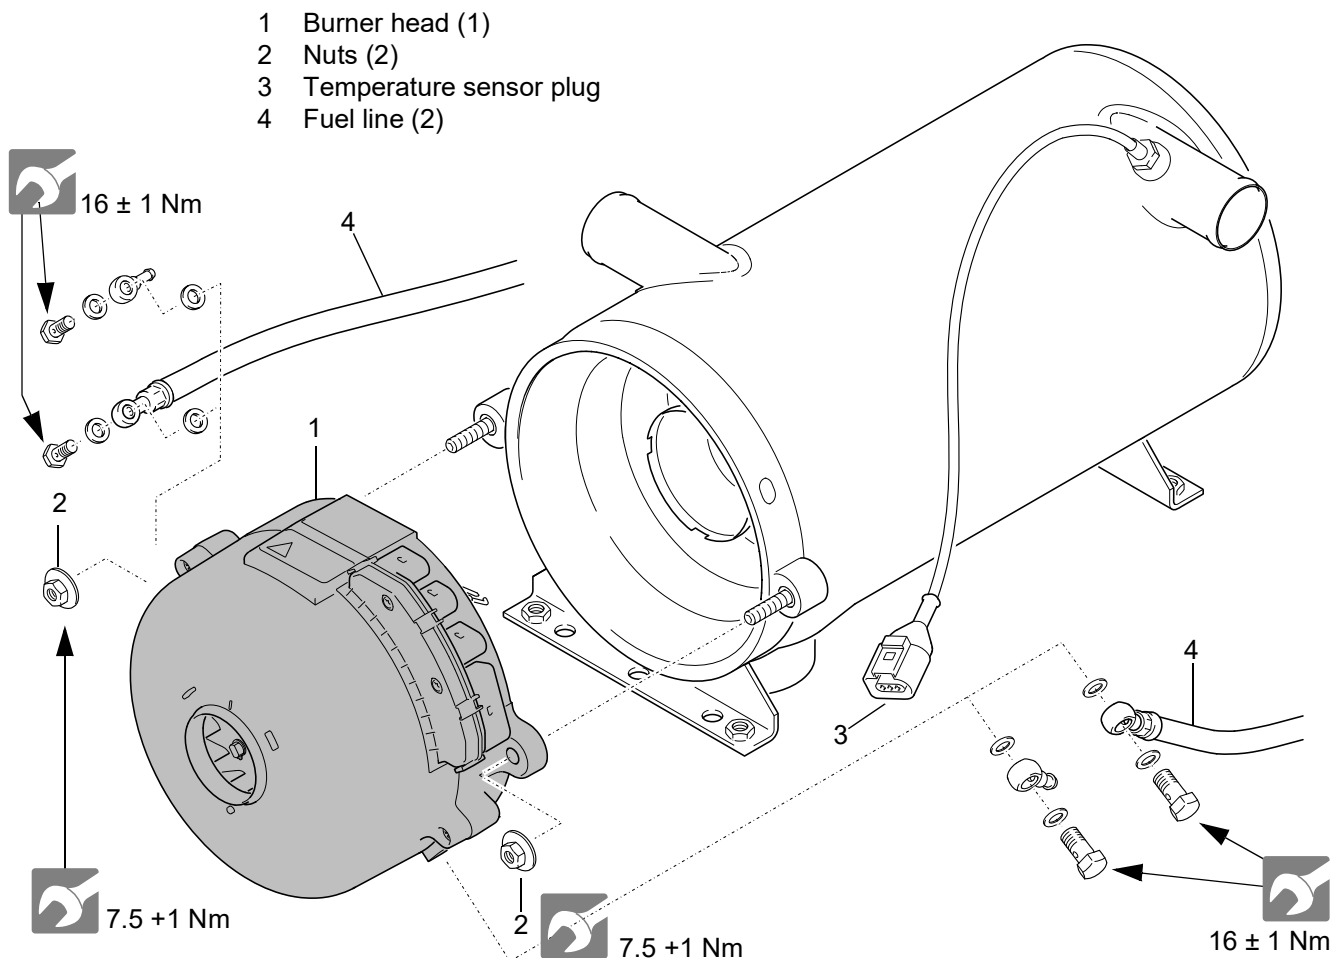

Fig. 801 Burner head removal and installation
6. Unscrew fuel lines (4, Fig. 801) and seal with blank plugs.
7. Unscrew nuts (2).
8. Remove burner head (1).
1. Bring burner head (1, Fig. 801) in assembly position and ensure center alignment and correct fit.
2. Place nuts (2) and alternately tighten them slightly.
3. Tighten nuts (2) with $7.5 \text{ Nm} + 1 \text{ Nm}$.
6. Connect the temperature sensor plug (T).
7. Connect the plug for the circulating pump (P).
8. Connect the plug for power supply/control (C).
The two combination nuts M8, connecting the burner head and the heat exchanger, must be tightened to torque, see Fig. 801, each and additional are to be secured using thread lock.
2. Disconnect the temperature sensor plug (3, Fig. 801).
2. Tighten the temperature sensor (1).
3. Connect the temperature sensor plug (3, Fig. 801).